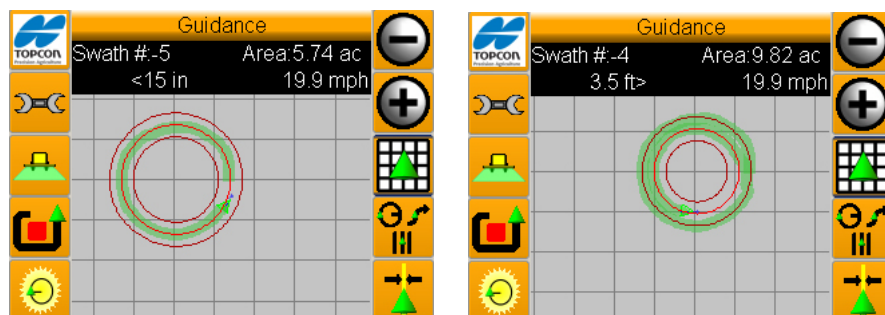

Figure 10-25. Follow the pivot line
11. Follow this line round and round to complete your coverage map (figure 10-25).